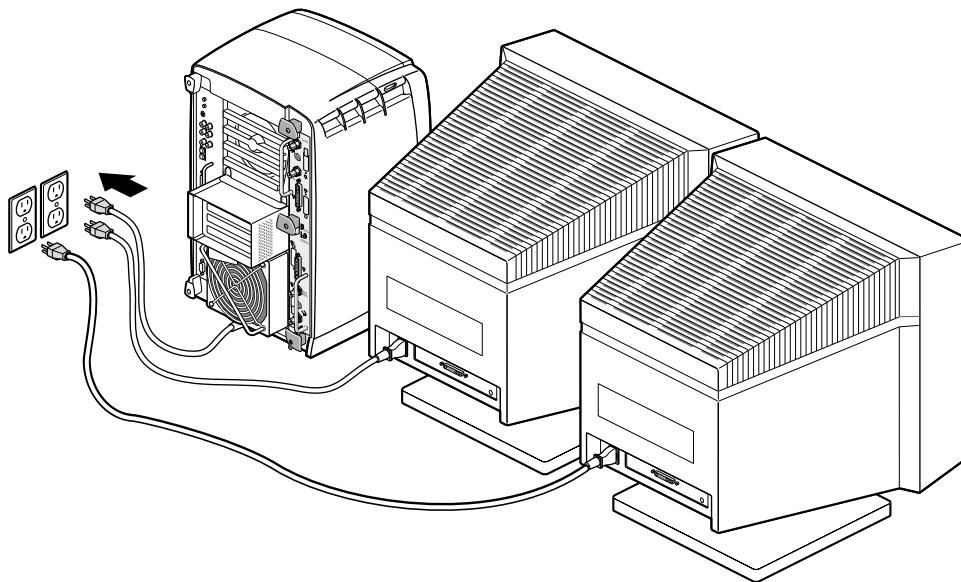

Figure 2-6 Connecting the Secondary Monitor Power Cable
1. Connect the female end of the power cable to the power connector on the back of the monitor, as shown in Figure 2-6.